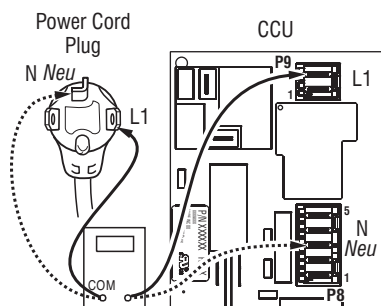

Figure 4b - Plug-to-terminal connections for electric dryer.
4. With an ohmmeter, check the continuity from L1 and N plug terminals of the power cord to the terminals for L1 and N on the CCU. See figure 4b.